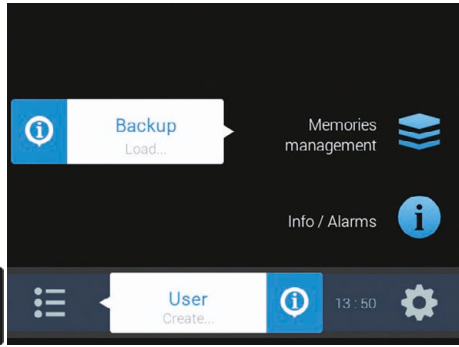

Fig. 20
If you have a configuration file (Backup), correctly saved on a pen-drive / SD card, press **F4** (A in Fig. 20) and follow the steps specified in par. 10.4.2. **IN ALL OTHER CASES, PRESS F7 (B): SAVE USER AND MACHINE CONFIGURATION; THEN START GUIDED SETUP BY PRESSING KEY F8** (Fig. 22 o Fig. 23).